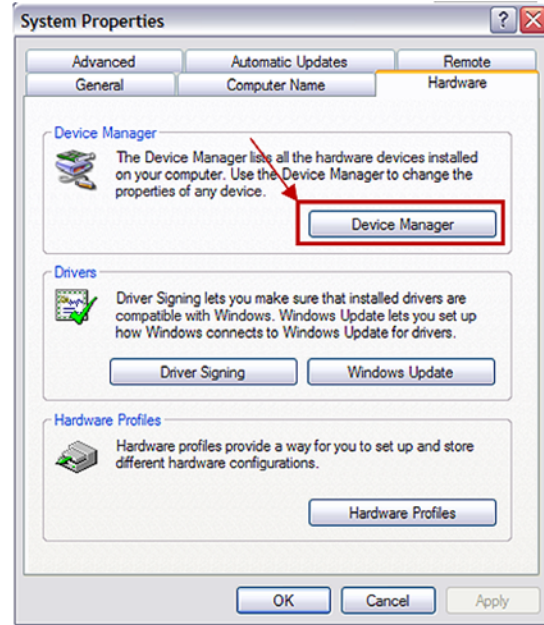

Figure 7. System Properties
2. Click the **Hardware** tab of the **System Properties** window, as shown in Figure 7.